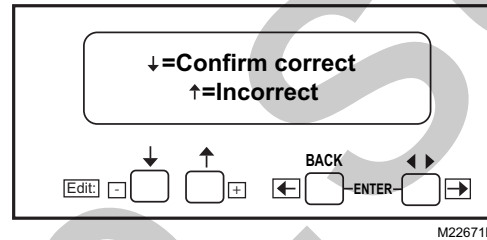

Fig. 20. Confirmation Correct screen.
22. Press the down arrow to confirm the correct postpurge time. "Getting Data" will be displayed until the screen in Fig. 20 appears.